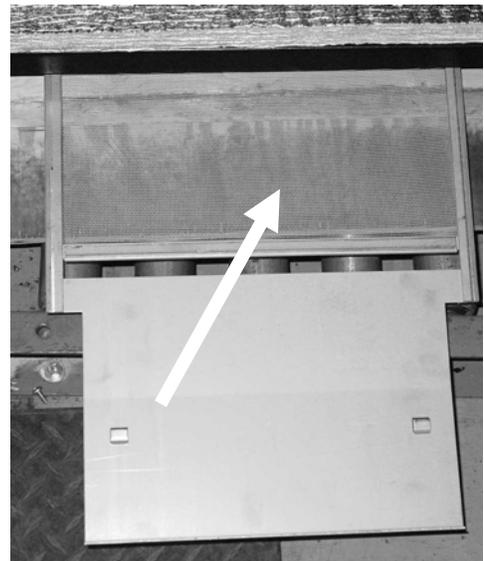

Figure 5
Loosen (2) screws shown in fig. 5.
| MISCELLANEOUS (See Fig.5) | | | | | | |